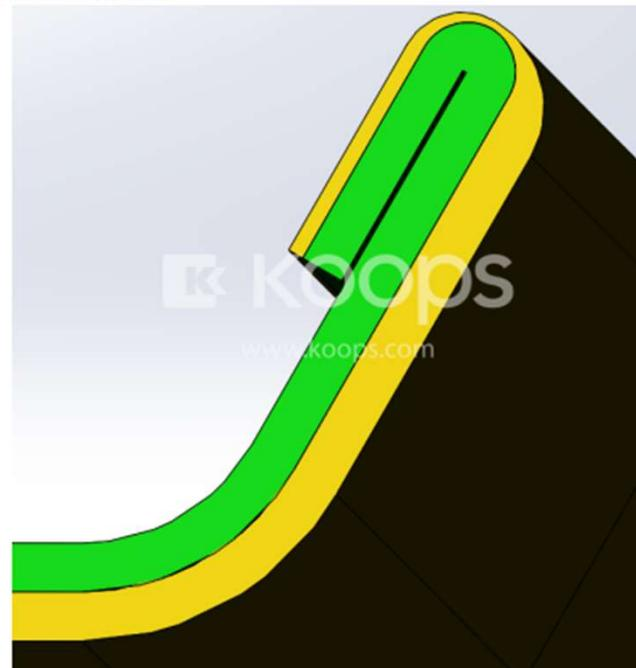

Figure 1 – Representation of headliner compression post edge fold.
1. The edge folding process will compress the headliner substrate and cover stock thickness from nominal only in the folded area (see Figure 1 below). If a new customer provides CAD without this, this must be reviewed with the customer. The 2D edge fold drawing spec should also be provided to new customers.